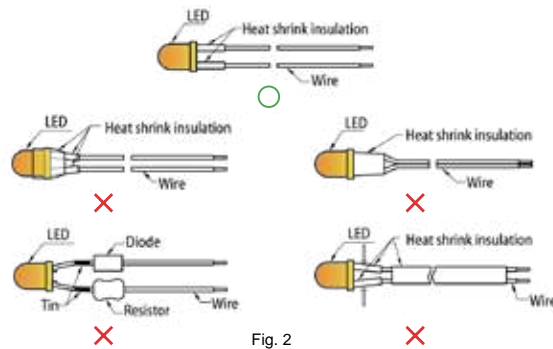

Fig. 2
2. When soldering wires to the LED, each wire joint should be separately insulated with heat-shrink tube to prevent short-circuit contact. Do not bundle both wires in one heat shrink tube to avoid pinching the LED leads. Pinching stress on the LED leads may damage the internal structures and cause failure. (Fig. 2)